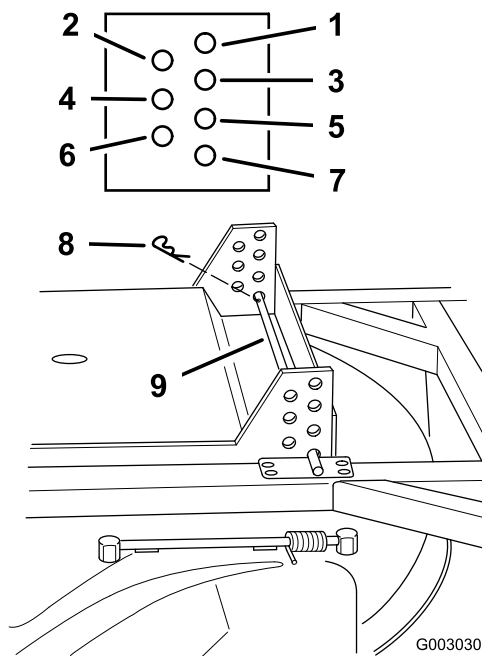

Figure 19
2. Remove the hairpin cotters and relocate the support rods in different hole locations in the brackets at each corner of the mower (Figure 19).